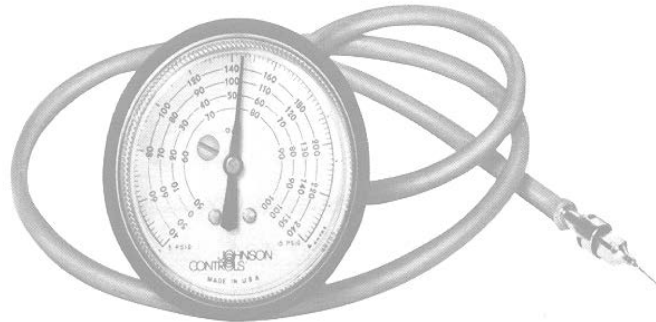
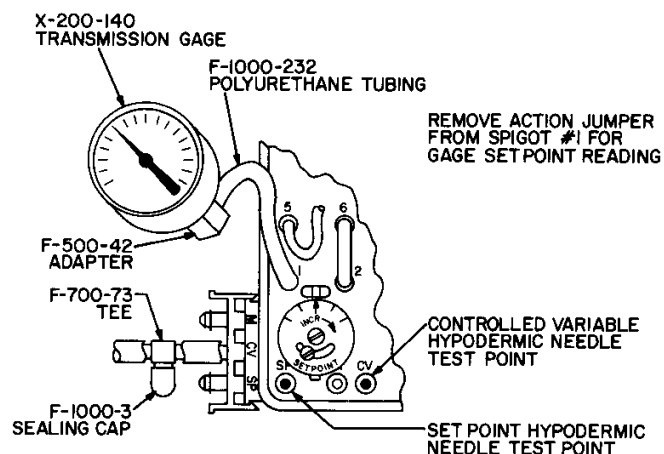

Fig. 7: X-200-140 Test Probe with Gage
Fig. 8: Methods for Checking Pressure Readings
An X-200-140 Hypodermic Needle Test Probe and appropriate gage (see Fig. 7, ordered separately) is also available for troubleshooting, for test point readings, or for final set point adjustments under actual job conditions. **Note: Figure 8 illustrates an alternative method of checking pressure readings on the T-5800 where use of a hypodermic needle test probe is prohibited.**
2. Take a set point pressure reading using the appropriate method and gage, as illustrated in Fig. 8. Adjust the local set point dial or the remote adjuster (manual or automatic) until the pressure matches the value noted in Step 1. Remove the pressure reading device and reconnect the jumper (if applicable).
3. Take a set point pressure reading using the appropriate method and gage, as illustrated in Fig. 8. Adjust the local set point dial or the remote adjuster (manual or automatic) until the pressure matches the value noted in Step 2. Remove the pressure reading device and reconnect the jumper (if applicable).